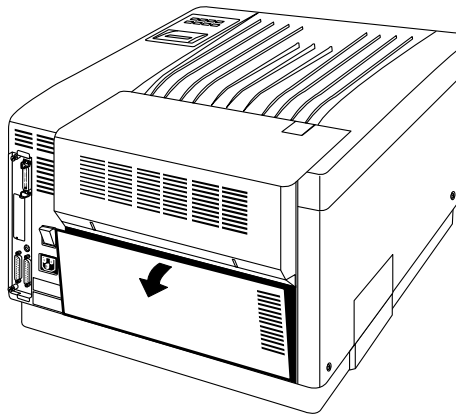

Fig. 9.4 *Open the Back Cover*
1. Open the back cover by pressing the top-right corner to release the spring latch (fig. 9.4).